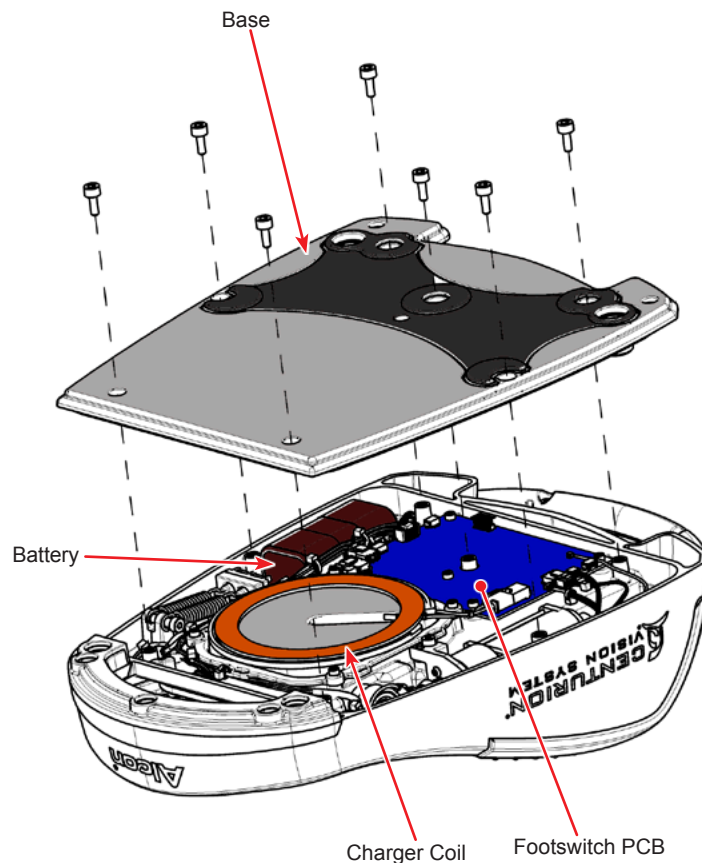

Figure 3-61 Footswitch Base Removal
- 47.1 Remove seven 4 mm hex screws securing Base to main housing (see Figure 3-61). Remove Base.
- 48.1 Remove seven 4 mm hex screws securing Base to main housing (see Figure 3-61). Remove Base.
- 49.1 Remove seven 4 mm hex screws securing Base to main housing (see Figure 3-61). Remove Base.
- 50.1 Remove seven 4 mm hex screws securing Base to main housing (see Figure 3-61). Remove Base.
- 51.1 Remove seven 4 mm hex screws securing Base to main housing (see Figure 3-61). Remove Base.